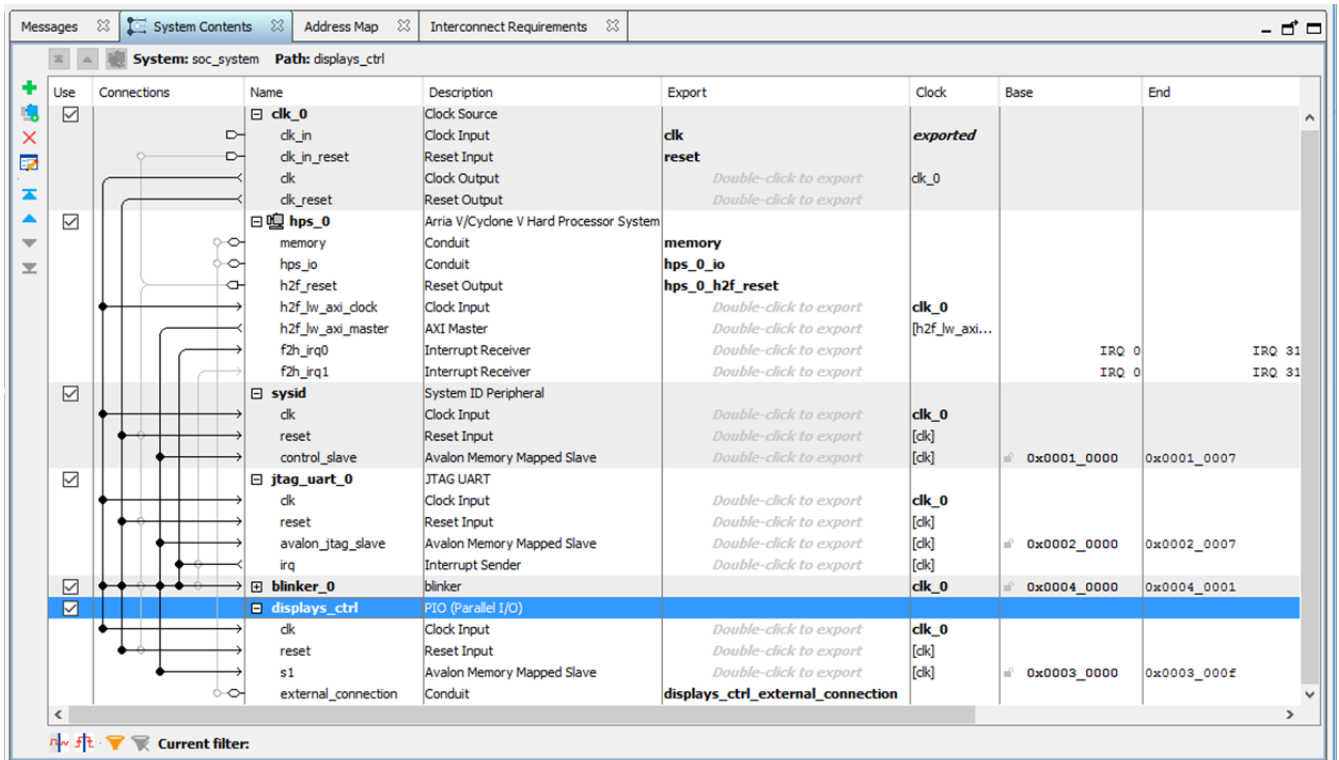

Fig. 80: Details of the connection of displays_ctrl IP (Avalon PIO) with the hps_0 (HPS).
9. Connect the inputs of the `displays_ctrl` component to the `hps_0` as shown in the Fig. 80.
10. Double click the column "Base" in the line `s1 (Avalon Memory-Mapped Slave)` and write the offset address `0x0003_0000`. Considering that the base address of the `h2f_lw_axi_master` is "0xff20_0000", as can be seen in the *cyclone5_handbook. Volume 3. Page 1-16. Table1-2(common address space regions)*, the base address of our parallel port is "0xff23_0000". The size of Altera PIO IP is fixed to "0xf", as can also be seen in the Fig. 80.